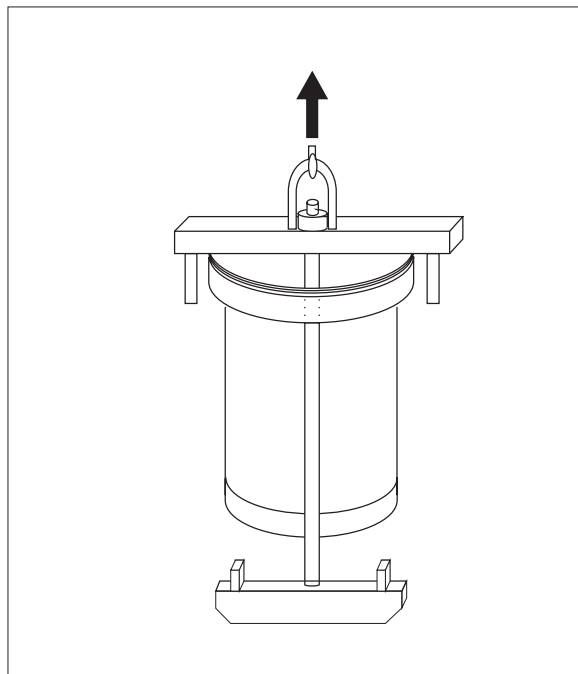

Fig 2.
- 2) Mount the lifting tool as shown, *see fig 2*.